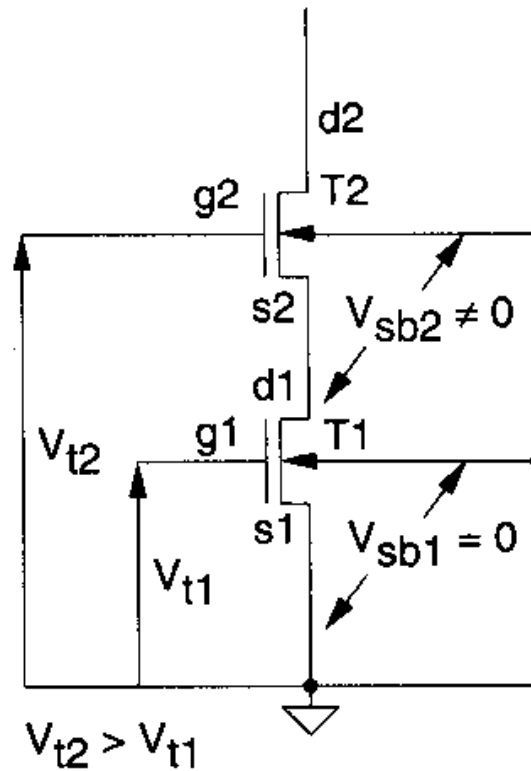

FIGURE 2.7
- When connecting several devices in series as shown in Figure 2.7, the source-to-substrate of each individual devices may be different. For example, $V_{sb2} > V_{sb1} = 0$.